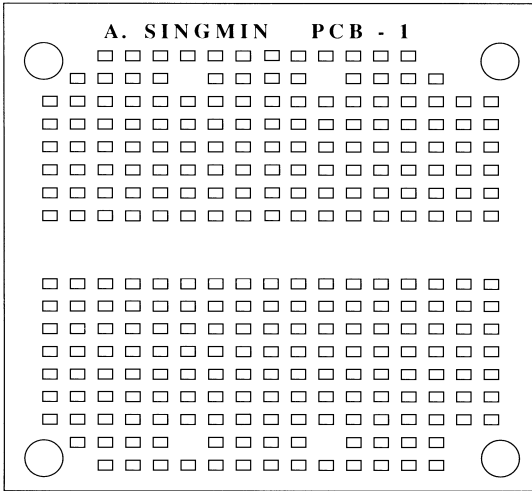

Figure 16-1 Top view of the SINGMIN PCB universal circuit assembly board
The SINGMIN PCB emerged out of the need to find a better solution to the current methods for prototyping simple projects. The top view of the SINGMIN PCB is shown in Figure 16-1. The way it is shown in the figure, with the legend “SINGMIN PCB-1” at the top of the board, is the way you would correctly orient it for your use. The size of the board is 4 inches by 4.5 inches, although it may be split or quartered into separate, self-contained boards. Separating the SINGMIN PCB into individual sections is done within seconds by merely grasping the board and snapping along the guidelines running horizontally and vertically through the center of the board. For a neater finish, you can smooth down the edges of the board after splitting them apart, but this step is not critical.
Not shown in Figure 16-1 is an extra shorting track running along the center of the board (from left to right) that can be used as an optional grounding link under the integrated circuit that would straddle this link. It is not used for any of the projects described here, and hence is left off the figures for clarity. It does serve, though, as a nice identifying check that your integrated circuit (IC) is positioned correctly, in that this shorting track must lie under the IC (running left to right).